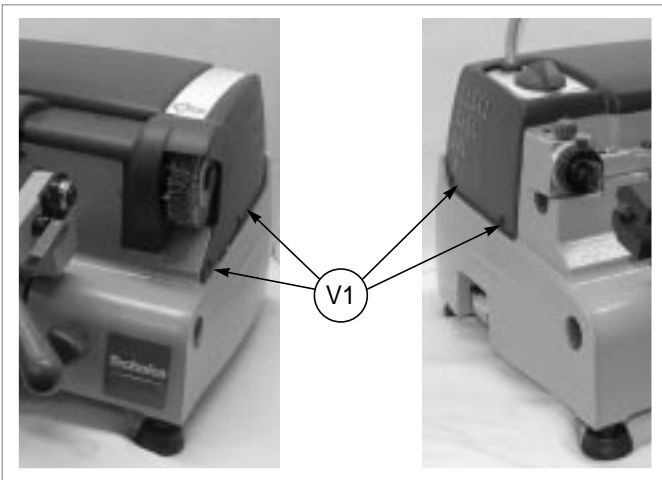

Fig. 34
- 1) Take out the 4 screws (V1) (fig. 34) on the top cover and remove by slightly lifting and turning it.